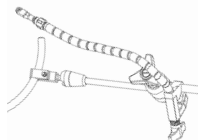

Figure 20
- Tighten small purple knob to affix the **Flex Arm** to the **Articulating Arm**. (Figure 20)